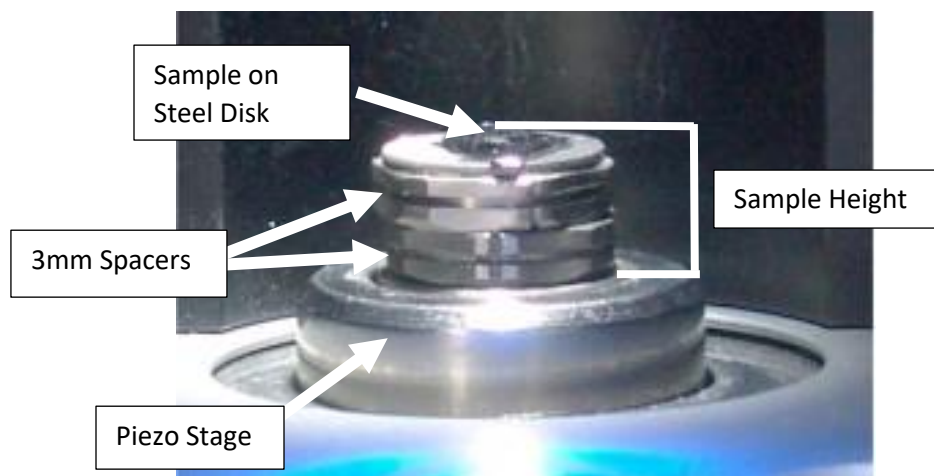

Figure 2: Piezo stage with 3mm spacers
- The piezo stage is magnetic and usually has a 3mm magnetic spacer on it (Figure 2).
- Samples should be mounted on the steel discs (Figure 2) that are in the lab, using double sided carbon tape or some other adhesion method.
- The sample height needs to be measured using the digital veiner caliper, this includes any 3mm spacers and steel disks being used (Figure 2). Sample height is from the top of the piezo stage to the top of the sample.